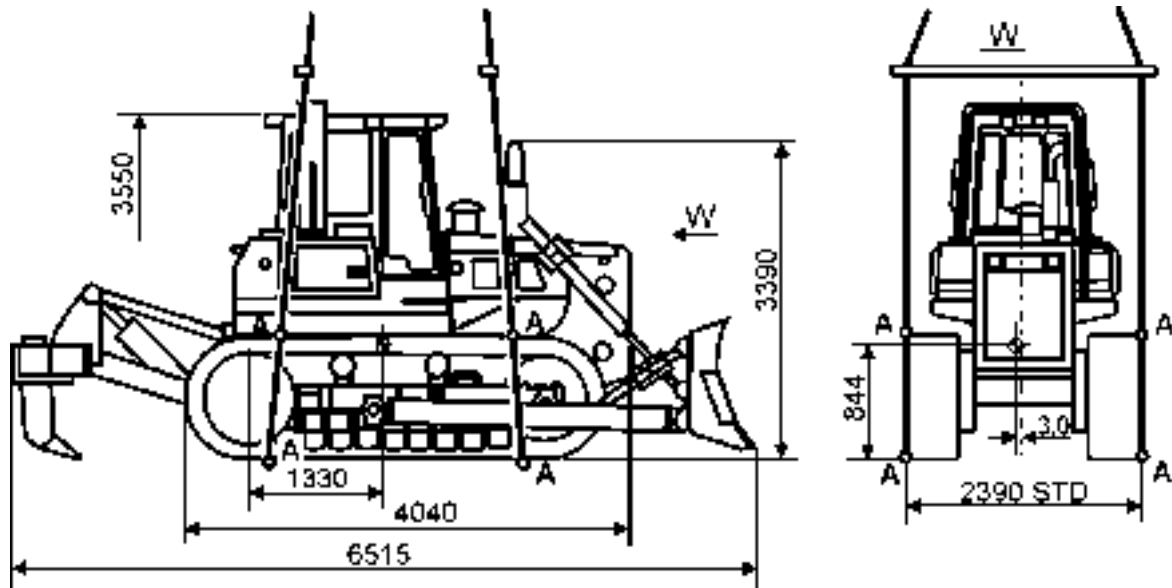

Fig. 3.1. Lifting Machine on Slings (Machine without Lifting Eyes)
- 3A. If the machine is not equipped with lifting eyes, attach slings under the machine as shown in Fig. 3.1 in the places marked by the letter „A” in the way preventing sliding of the sling from the track shoe and moving the track itself.
- All attaching points for lifting devices such as eyes, holes of the elements of mounted equipment should be marked as shown in Fig. 3.1.B.